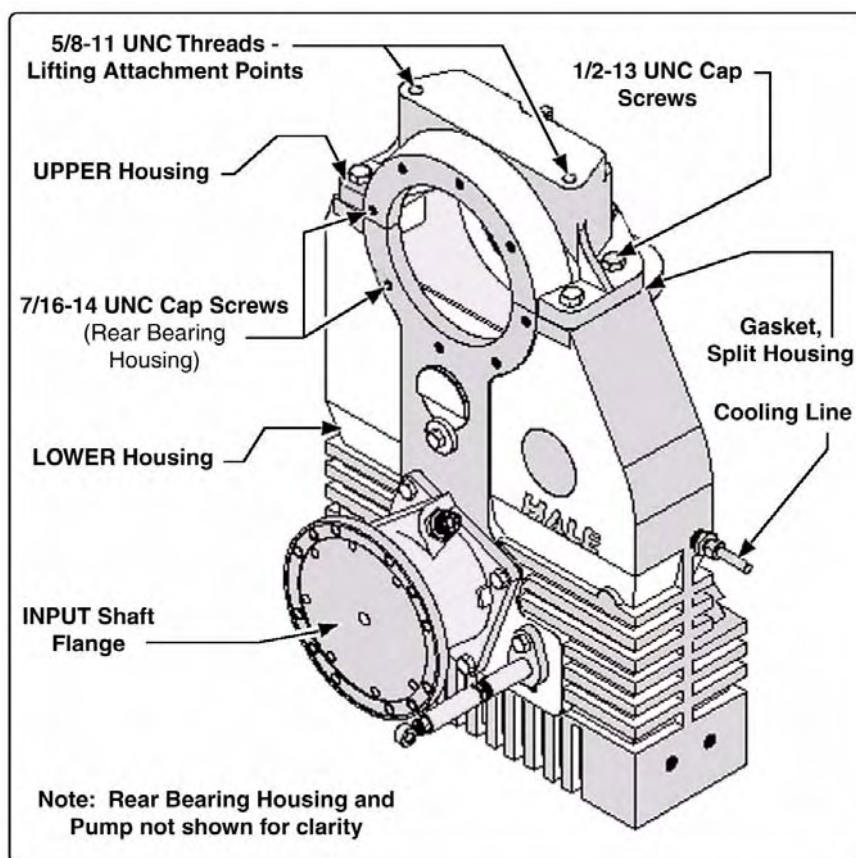

Figure 6-4: Typical G Series Gearbox Removal
(See Figure 6-4: “Typical G Series Gearbox Removal.”)
Note: The number of cap screws that secure the rear bearing housing to the gearbox depends on the gearbox model, e.g., the short gearbox uses seven (7) screws; the long gearbox uses eight (8). (See Figure 6-4: "Typical G Series Gearbox Removal" on page 76.)
Also see Figure 6-4: “Typical G Series Gearbox Removal” on page 76.
2. Disconnect the water line compression fittings and the gearbox water cooling lines from the volute. (See Figure 6-4: "Typical G Series Gearbox Removal" on page 76.)